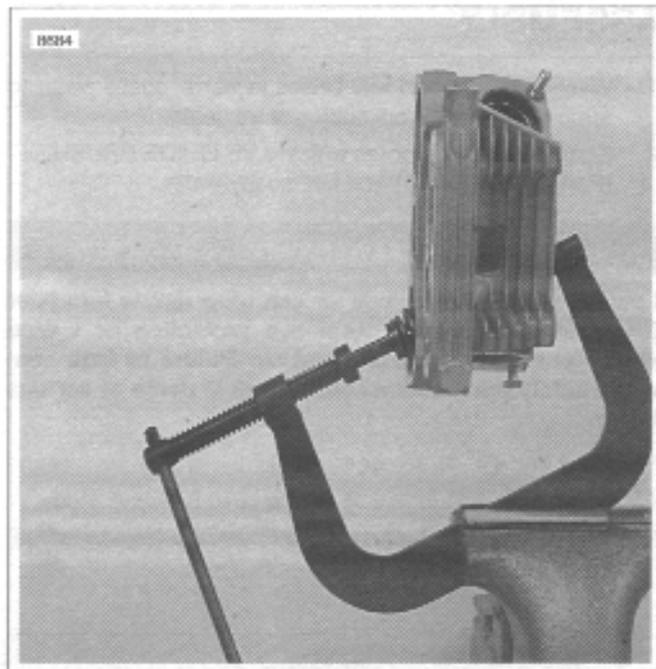

Figure 3-84. Valve Spring Compressor (Part No. HD-34736B)
9. See Figure 3-84. Compress spring with VALVE SPRING COMPRESSOR (Part No. HD-34736B).